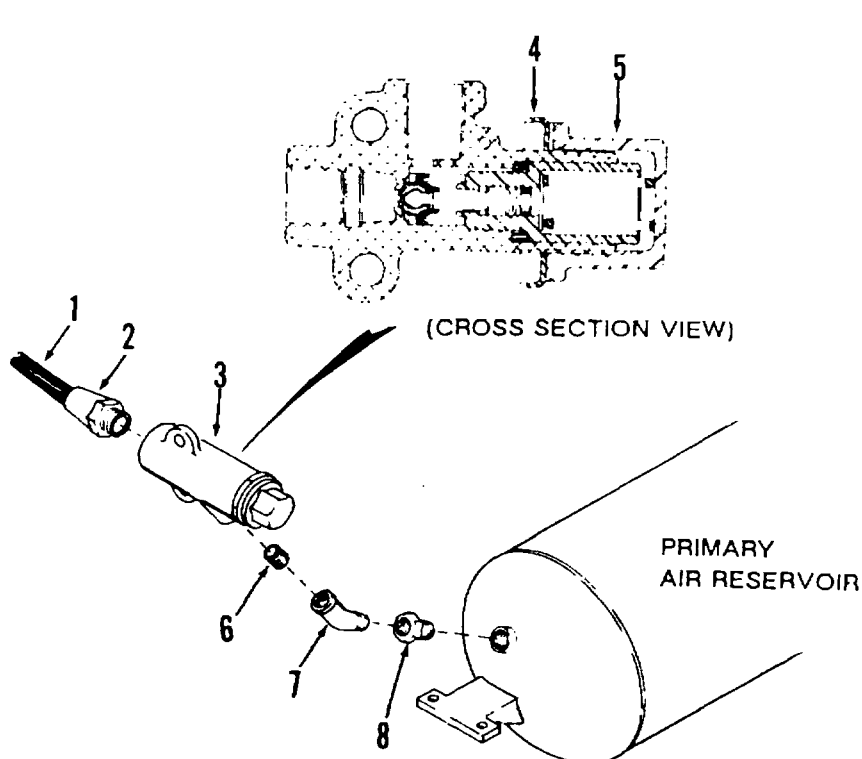

Figure 4-55. Pressure Protection Valve
4-48. Pressure Protection Valve (Fig. 4-55.)
- (1) Block semitrailer to prevent movement.
- (2) Exhaust air from system by opening drain valves on bottom of air reservoirs.
- (3) Remove air line (1), fig. 4-55. Also remove adapter (2) from end of valve.
- (4) Unscrew valve (3) from nipple (6).
- (5) Remove elbow (7) and bushing (6) from air reservoir if replacement is necessary.